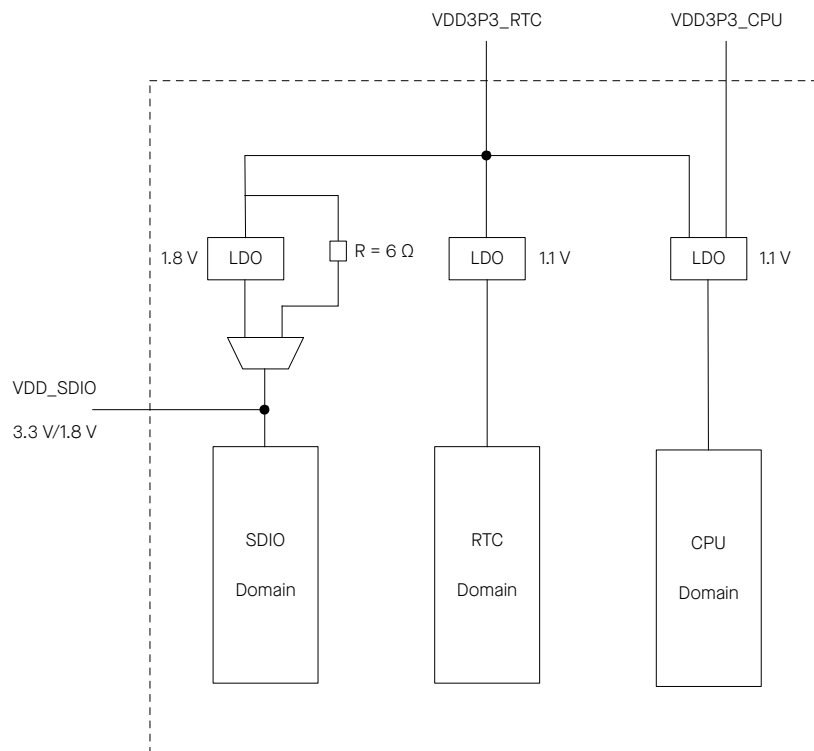

Figure 2-3. ESP32 Power Scheme
The power scheme is shown in Figure 2-3 ESP32 Power Scheme.
1. As the in-package flash (ESP32-U4WDH) and the in-package PSRAM (ESP32-D0WDR2-V3) operate at 3.3 V, VDD\_SDIO must be powered by VDD3P3\_RTC via a 6  $\Omega$  resistor. See Figure 2-3 ESP32 Power Scheme.